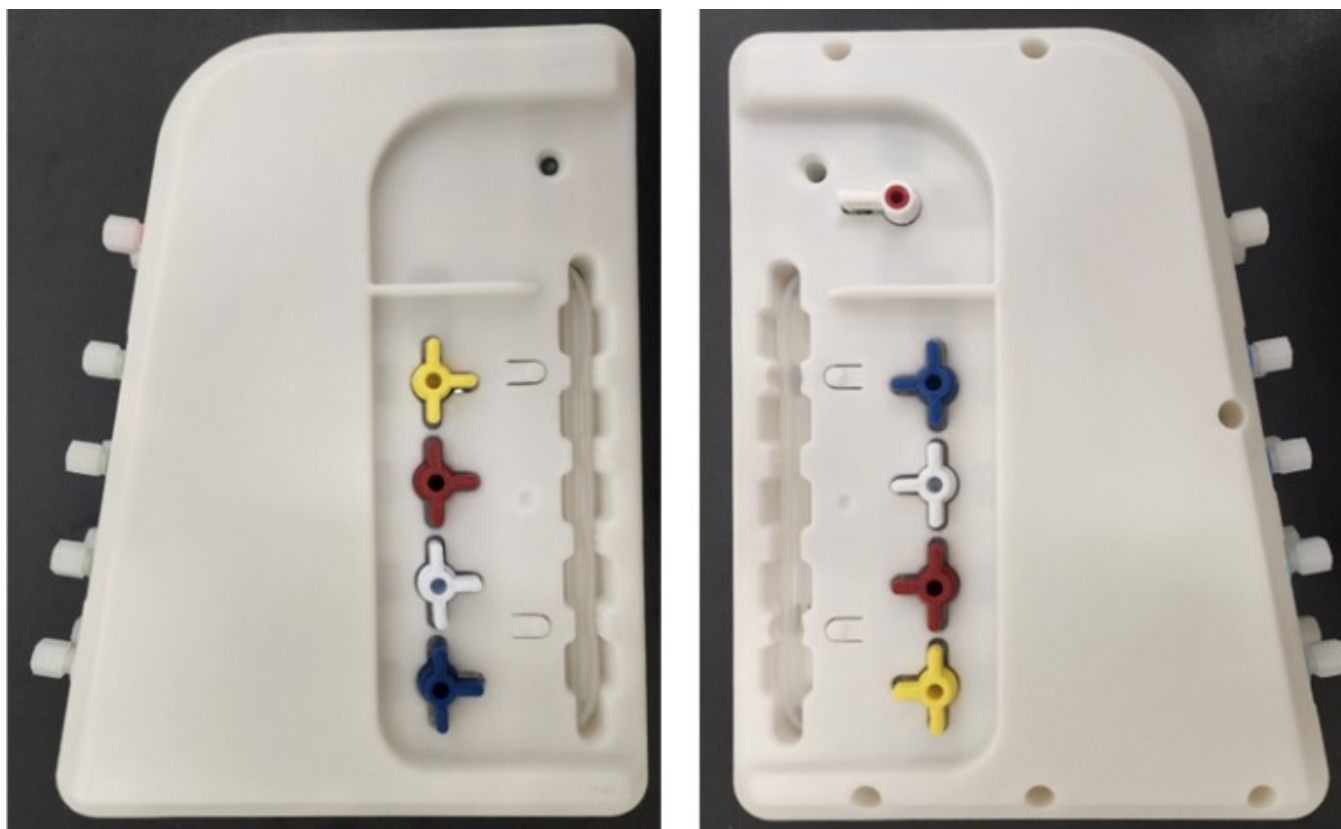

Figure 1. Proper Valve Orientation
- 1.4 Remove the cartridge from its packaging and check the valve orientation. The valves must be oriented as shown in Figure 1 to allow cartridge insertion and correct operation.
- If the valves on the cartridge are misaligned, manually adjust the valves as seen in Figure 1, turn off the instrument, wait 5 seconds, and turn it back on. Attempt reinsertion.